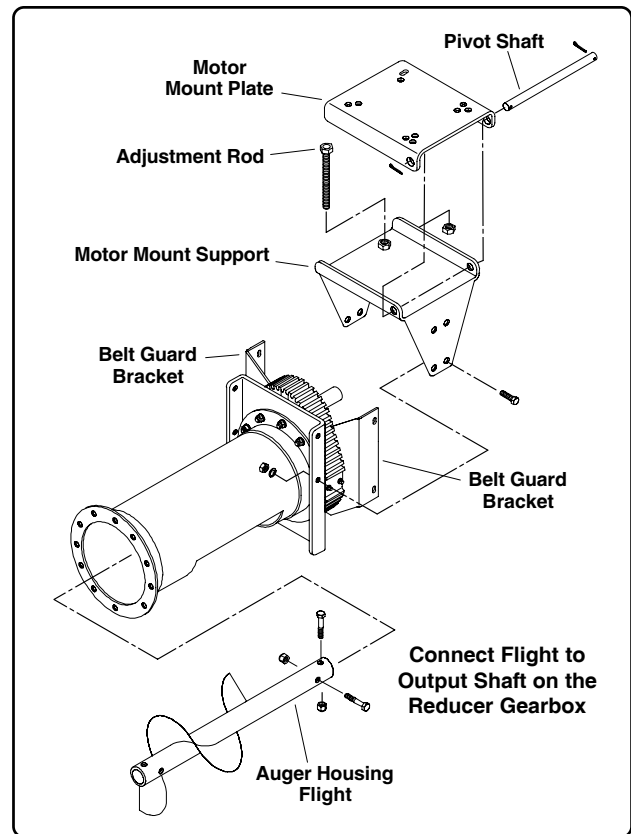

FIG. 11
3. Slide the flight into the auger housing and onto the output shaft of the reducer. Secure using two (2) 5/8" x 4" bolts and nylon locknuts (See Fig. 11).
4. Fasten the motor mount support to the head plate using the **front** pair of holes in each side of the motor mount. Secure using four (4) 1/2" x 1 1/4" bolts, lock washers and non-lock nuts.
**NOTE: Position the motor mount so the pivot shaft holes are on the right hand side (as seen when looking from the intake end of the auger towards the discharge end, See Fig. 11).**